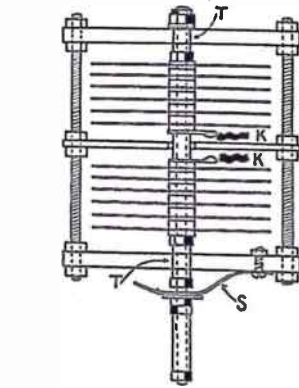
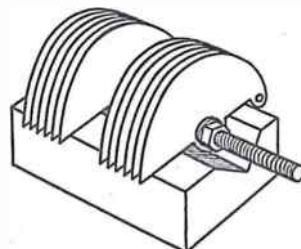

Fig. 4
Fig. 5
As will be seen in Fig. 4, the front end of the rotor is controlled by a brass spring (made out of springy 1/4in. brass strip). This is (S) in Fig. 4. This has a hole bored in it to allow the spindle to pass through, and it is fixed to the front frame with a small bolt. This spring enables the rotor to stay put at any desired point of rotation. In front of the spring are two thin washers followed by two nuts locked together firmly.
Now slip on a .05in. and a .02in. washer over the 4 B.A. rod, and the same over the 8 B.A. Then another vane is put on. Again another lot of washers is put on, and then again another vane. Proceed in this manner until eleven vanes have been put on (Fig. 4). Then over the 4 B.A. rod place a .05in. washer and a soldering tag to which has been soldered a 3ins. length of flex (sometimes referred to as a 'pig-tail') which will be the earthing connection to the moving vanes (K,K, Fig. 4). More washers (or a piece of brass tubing) follow, and if preferred,
When the last of the vanes is placed in position, slip on another .02in. washer and a nut over both 4 and 8 B.A. rods (Fig. 4). The nuts at each end of the rotor have now to be tightened to make it a permanent, rigid structure with all the vanes in line. This can be done while holding the vanes down on a block of wood in which has been sawn a vee-shaped channel for the axle of the rotor to occupy but not touch. Only the vanes touch the block. Fig. 5 explains this.
In assembling the complete condenser, pieces of metal tubing (or even hard ebonite) are fitted tightly over each end of the rotor to provide a proper spindle for the bearing (T, in Fig. 4). The front and back and middle frames are then attached and fixed with the screwed rods or bolts. At the back, the rotor spindle end is provided with a couple of washers